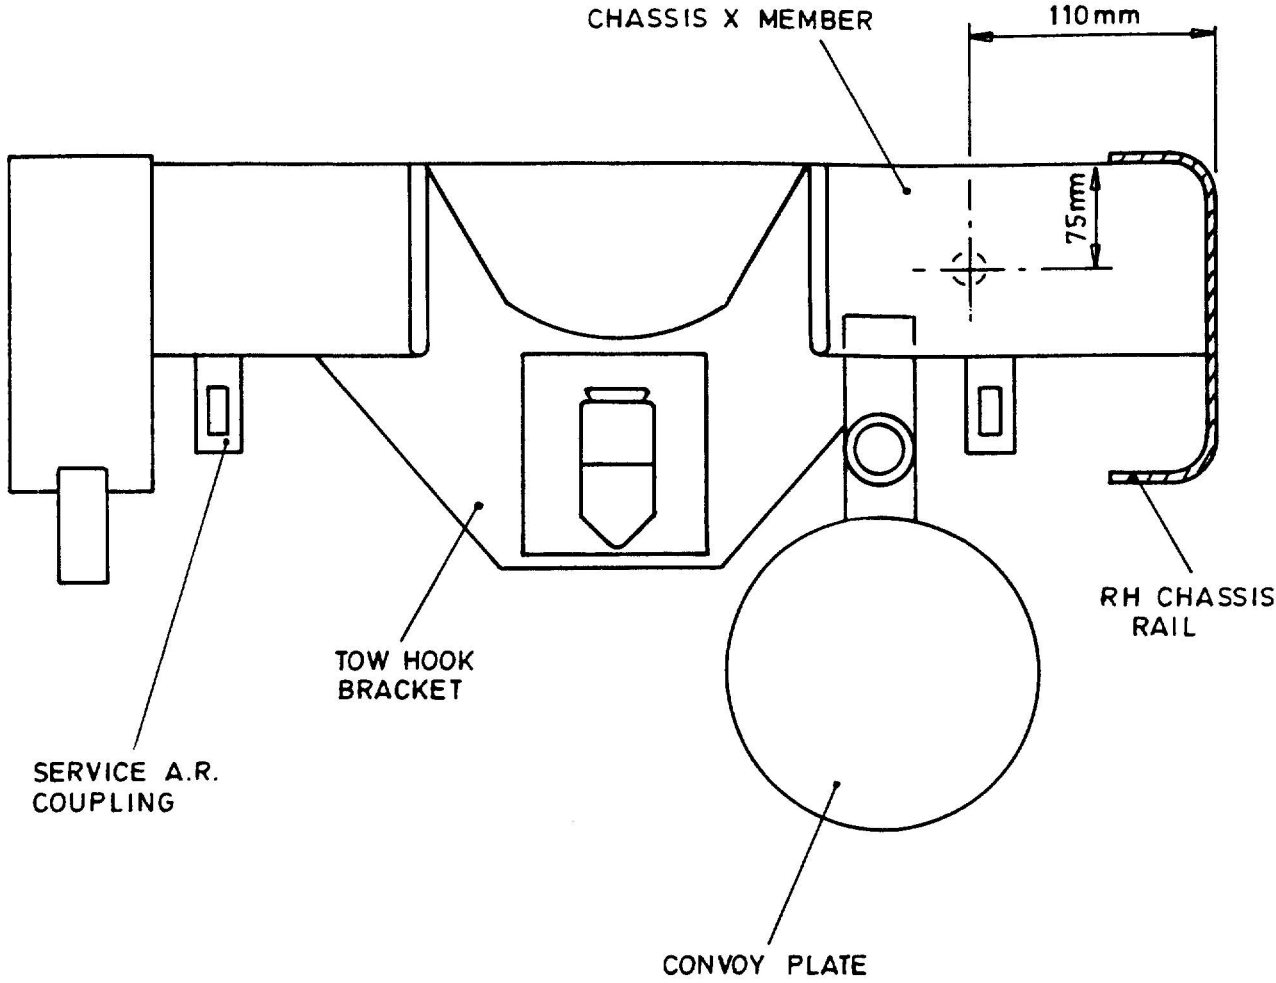

Fig 2 Location of earth bonding post, rear of vehicle
11.2 Using the location diagrams (Fig 2 and 3), locate, mark and drill a 2 mm pilot hole in the desired side and position where the post is to be fitted.